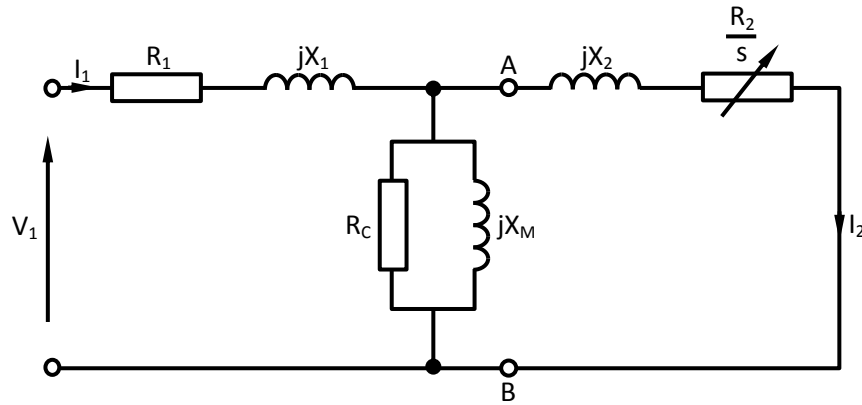

Figure Q1 Induction machine equivalent circuit
Q1 The per-phase equivalent circuit of an induction motor is shown in Figure Q1.
- (b) Calculations can be simplified if part of the circuit shown in Figure Q1 is replaced by a Thevenin equivalent circuit.
- (i) Draw this circuit which replaces the section to the left of terminals AB in Figure Q1.
- (ii) Derive the Thevenin circuit parameters from the parameters in the equivalent circuit of Figure Q1.